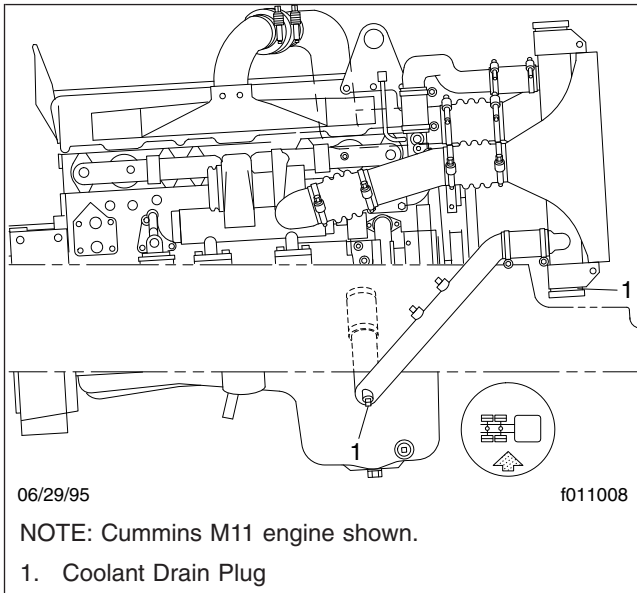

Fig. 4, Coolant Drain Plug Location
5. Remove the drain plugs from the radiator side tank, the lower tank on auxiliary radiators, and at the lower radiator outlet pipe elbow, if equipped. See Fig. 4. Allow the coolant to drain.